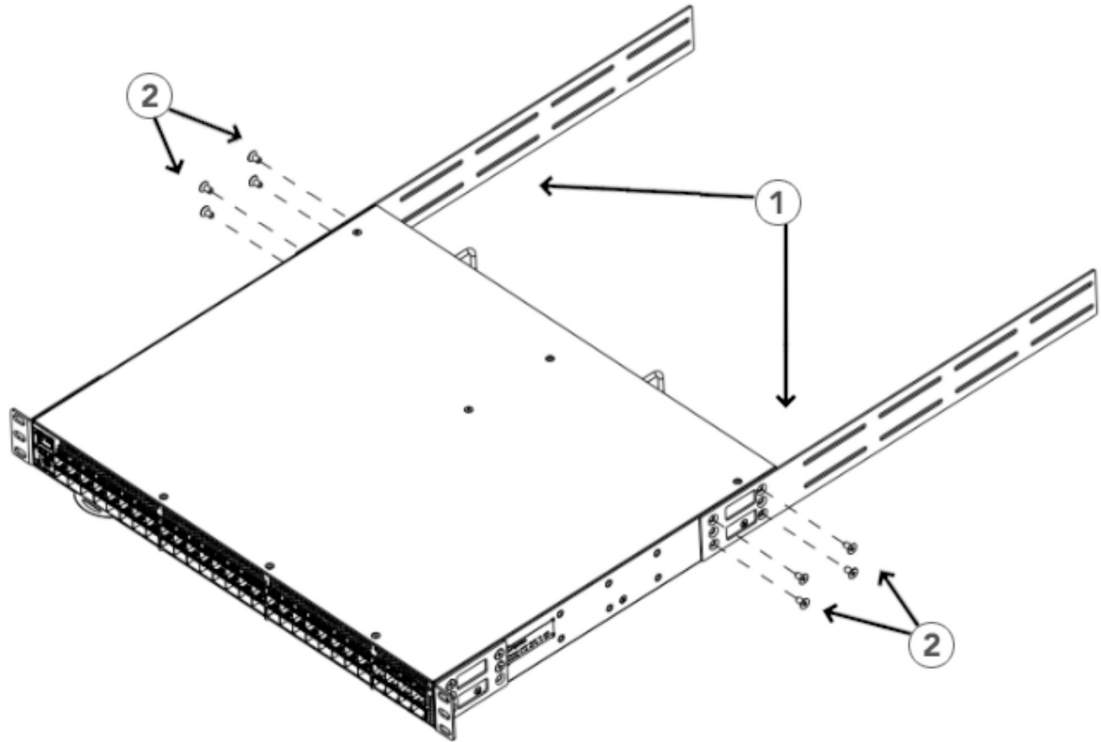

Figure 5. Attaching the Extension Brackets to the Device
2. Position the right extension bracket along the side of the device as shown in Figure 5.